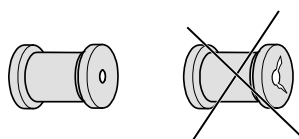

Fig. 12
- ◇ Replace damaged and brittle rubber caps (Fig. 12).